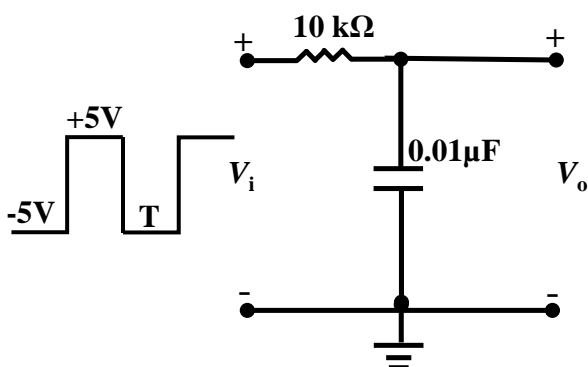

Fig. 11 RC Integrator Circuit
Wire the circuit of Figure 11. Connect signal from the OUTPUT socket of the function generator (FG) to the RC circuit, and also to the CH-1 input of the cathode ray oscilloscope (CRO). Choose square wave signal and adjust the amplitude control to obtain a waveform going from -5 V to $+5\text{ V}$. Connect the output of the RC circuit to CH-2 input of the CRO. Be sure to choose the DC mode for both CH-1 and CH-2 inputs so as to observe the dc levels of the signals. Use CRO to set the frequency of FG.